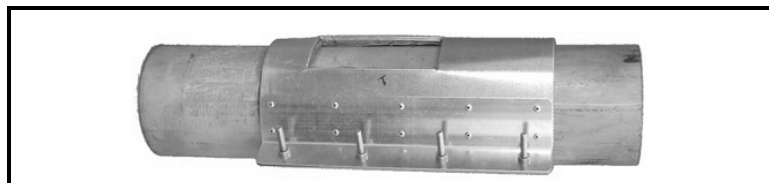

Figure 43: Installation of a PDJ Jacket
3. Install the jacket on the pipe as shown in Figure 43 below. Tighten the clamping screws so that some fluid drips from the bottom of the jacket.